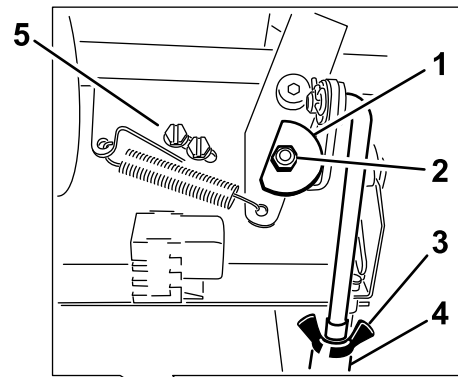

Figure 52
7. Loosen the nut and bolt holding the cam (Figure 52).